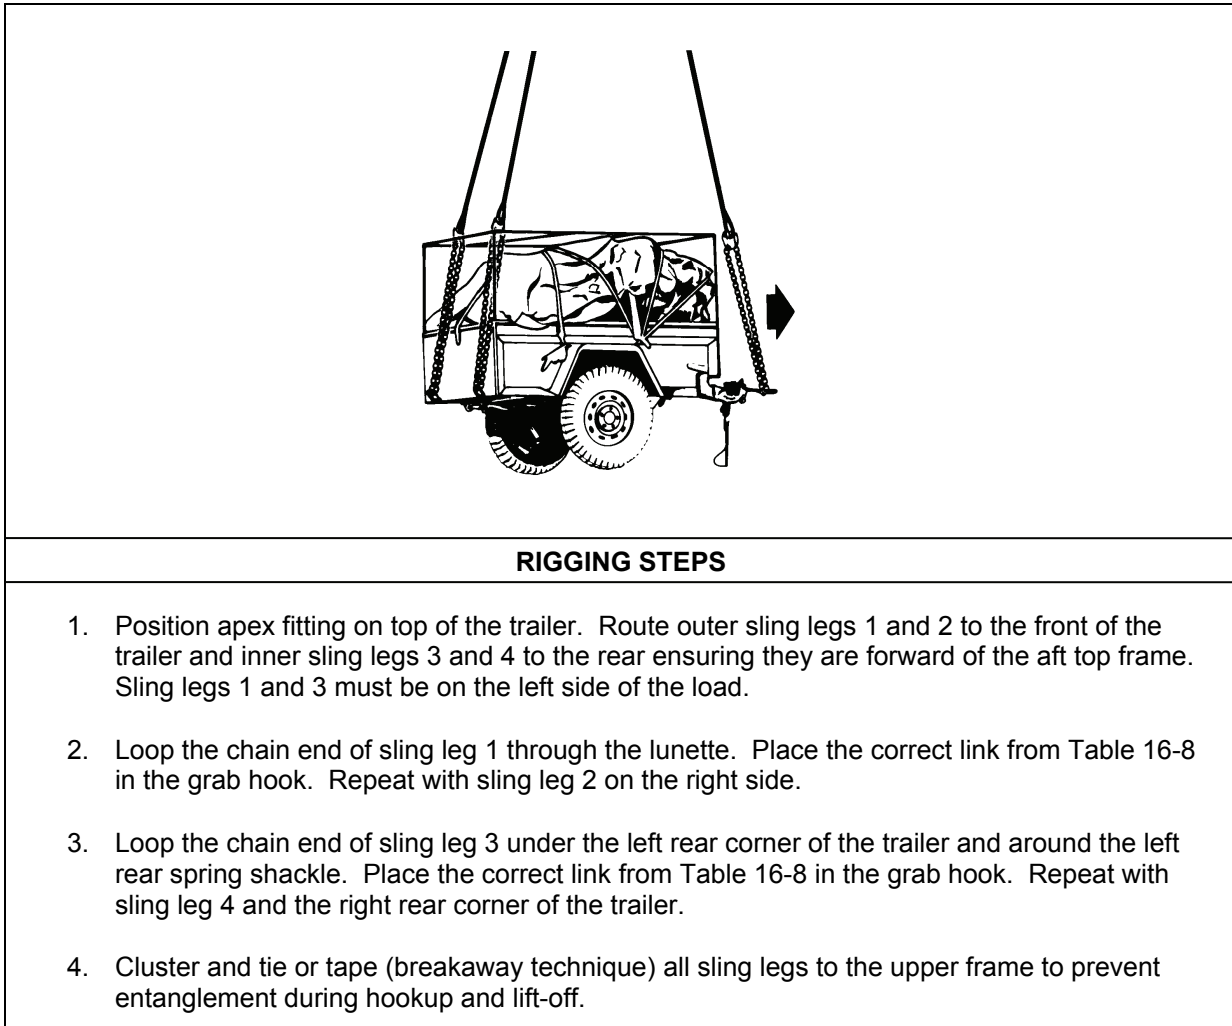

Figure 16-8. Trailer-Mounted AN/MTC-10
- **Rigging.** Rig the load according to the steps in Figure 16-8.